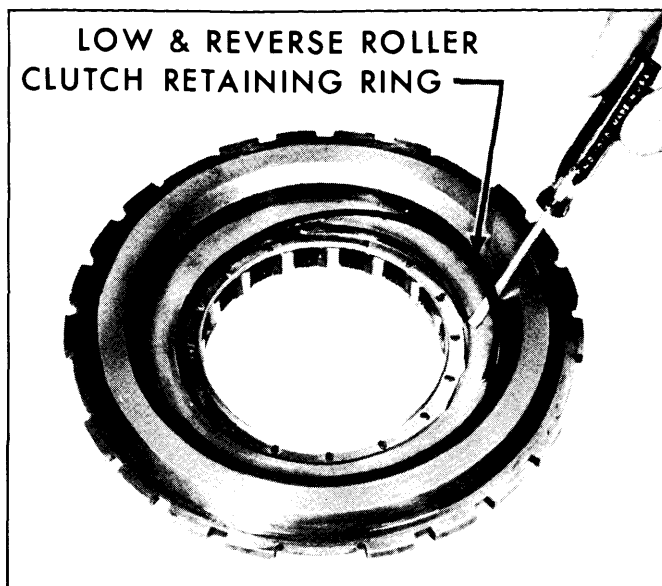

Fig. 7-93—Removing Overrun Clutch Retaining Ring
3. Remove low and reverse clutch roller clutch retaining ring. (Fig. 7-93)